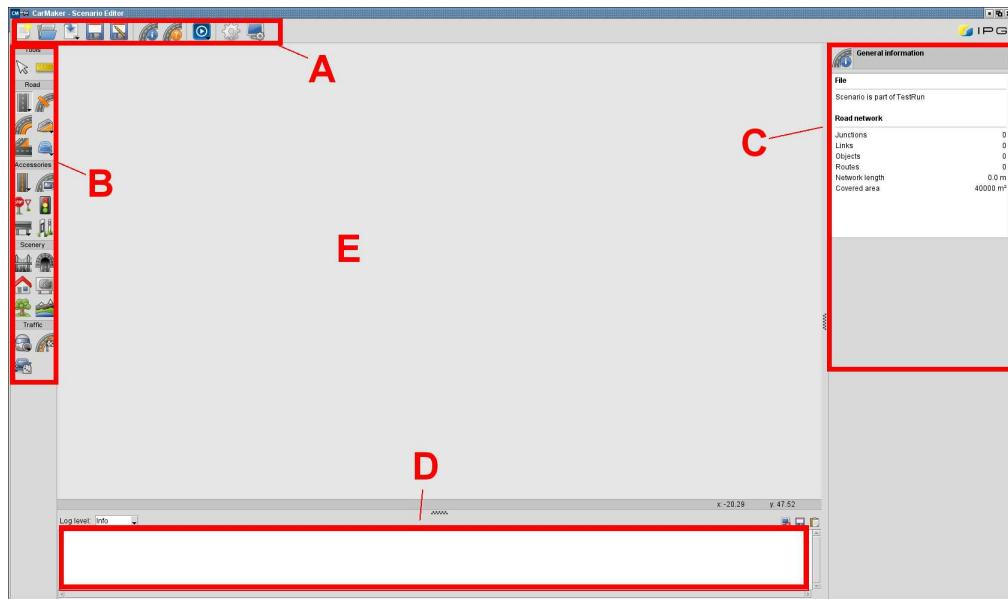

Figure 3.6: Scenario Editor - GUI:
- Use the cursor to navigate into the design area of the editor (the middle window, see Figure 3.6 - section E) and click once to define the starting point of the straight segment.